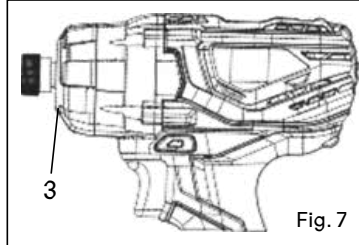

Fig. 7
The LED work light (3) will automatically turn ON when the trigger switch is squeezed (Fig. 7). It will automatically turn OFF when the trigger switch is released.